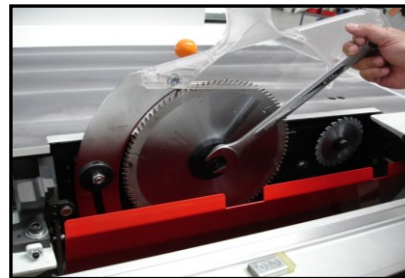

Fig. 32
6. Slide the blade over the arbor with the teeth facing the front of the saw (Fig. 32)
7. Re-install the arbor flange and the arbor nut and tighten them against the blade (Fig. 32)